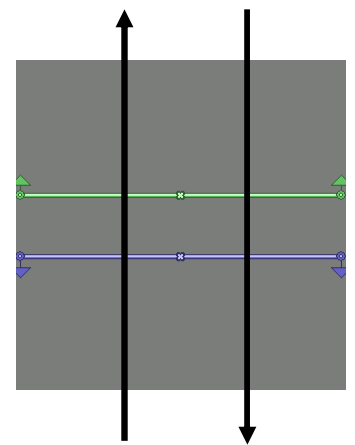

Figure 4.2
- Physically walking out of the field of view (**Figure 4.2**).
Figure 4.2 shows the path that two people took to walk through the field of view of a counter. In this case two counts will be generated; one increment for line 1 and one increment for line 2. The increments occur at the point that the target was seen to leave the field of view.